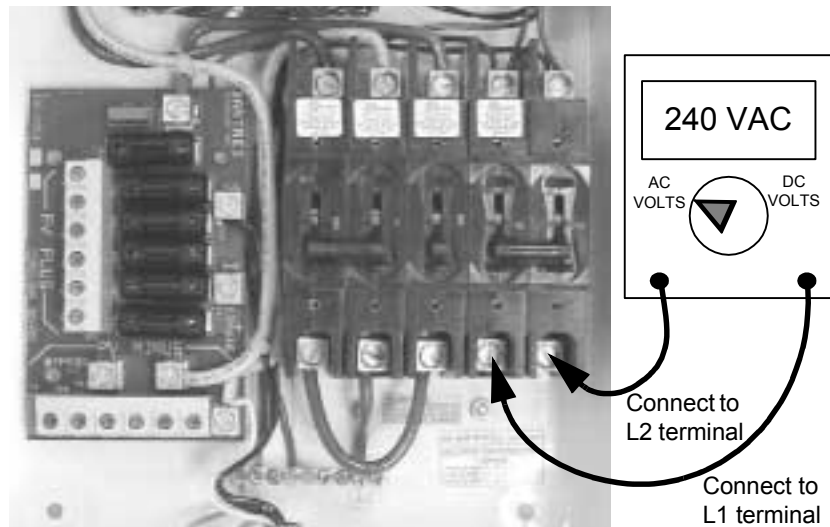

Figure 3-2 AC voltage test
3. Using an AC voltmeter, measure the AC open circuit utility voltage between L1 and L2, as shown in Figure 3-2. Ensure this voltage is approximately 240 volts AC. The inverter operates with a line-to-line voltage (L1 to L2) ranging from 211–264 volts AC.